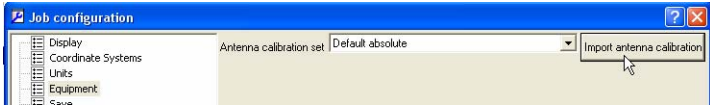

Figure 9-47. Import Antenna Calibration File
- Click **Job ▶ Job Configuration**, select *Equipment* and click the **Import antenna calibration** button in the left panel. The **Open** dialog box displays (Figure 9-47).